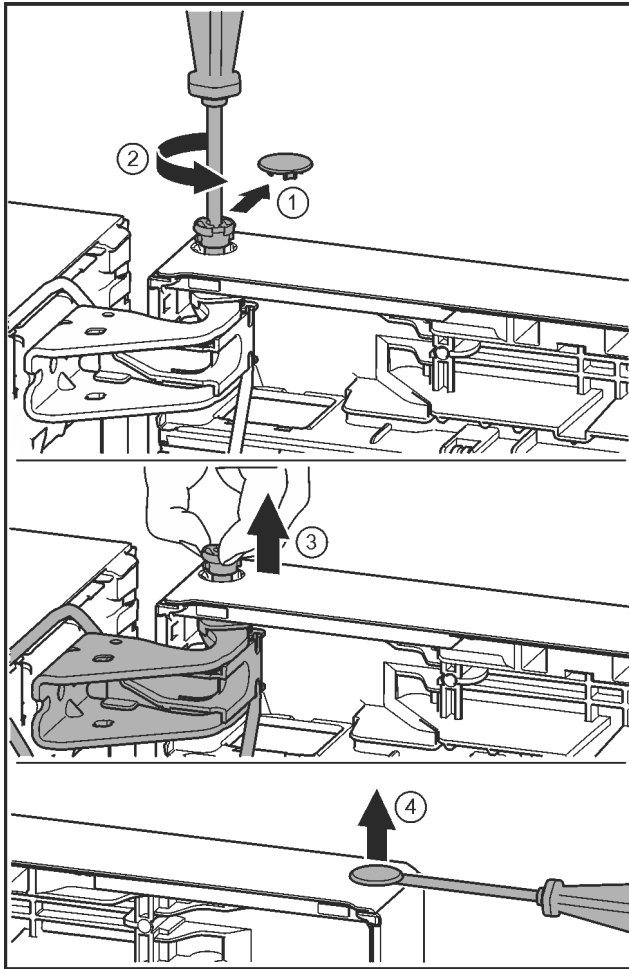

Fig. 26
- ▶ Carefully remove the protective cover. *Fig. 26 (1)*
- ▶ Undo the bolt a little with a T15 screwdriver. *Fig. 26 (2)*
- ▶ Hold the door and remove the bolts with your fingers. *Fig. 26 (3)*
- ▶ Carefully lift the plugs out of the door bearing bush with a slotted screwdriver and remove. *Fig. 26 (4)*